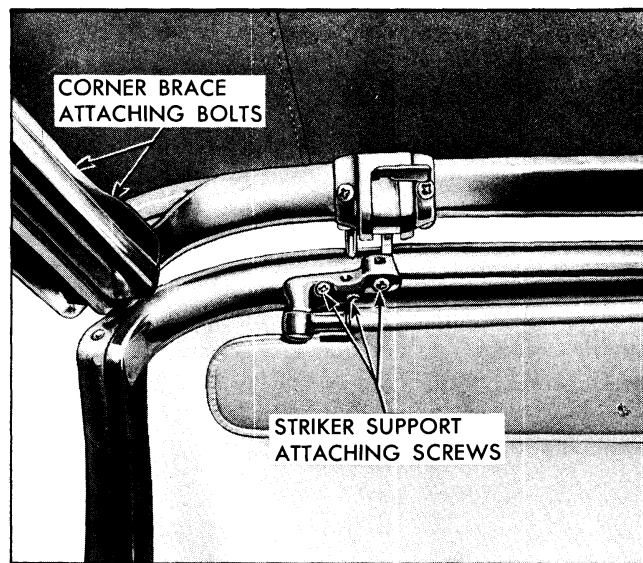

Fig. 22-24 Front Roof Rail Adjustment
2. Loosen striker support attaching screws and adjust striker as required; then tighten attaching screws (Fig. 22-24).